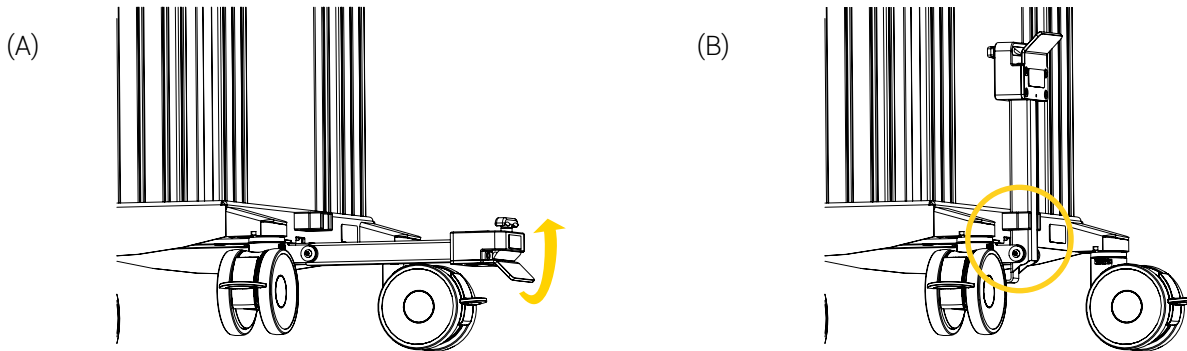

Figure 15 : Pivoting the fold-up hitch
- Pivot the fold-up arm upwards until it has reached its final position, then press on the arm to insert and secure the arm in its clip using your foot (Figure 15).